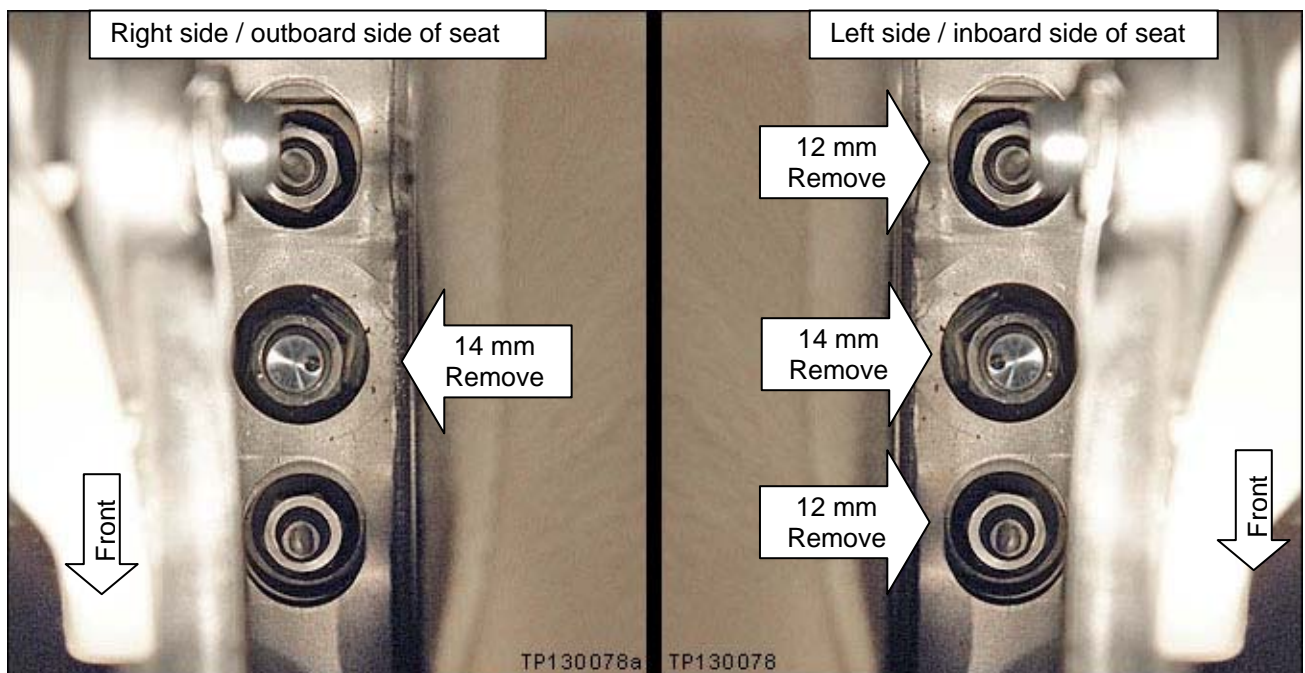

Figure 9
- c. Remove **only** the nuts indicated in Figure 9.